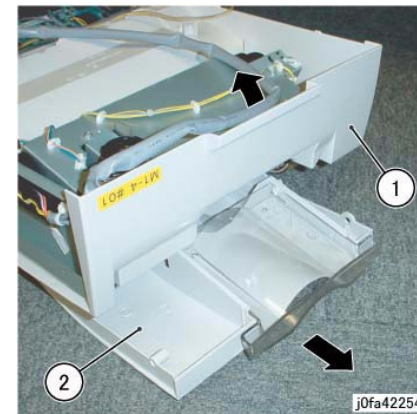

Figure 3 Removing the Top Tray (j0fa42254)
7. Remove the Top Tray. (Figure 3)